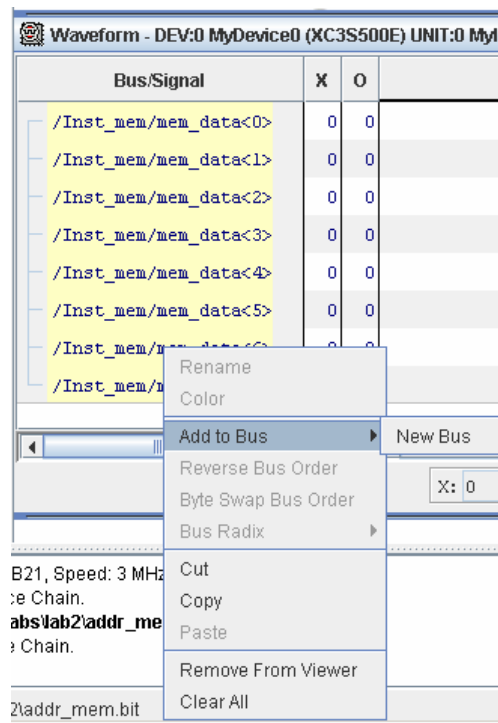

Figure 3.3 – Creating a Bus
- ① Select **File → Import** option. *Signal Import* window appears. Click on **Select New File** and open **debug.cdc** file and click OK. Notice that signal names in the waveform window gets changed.
- ② In the waveform window, select all the signals and right click and select **Add to Bus → New Bus** (figure 3.3).